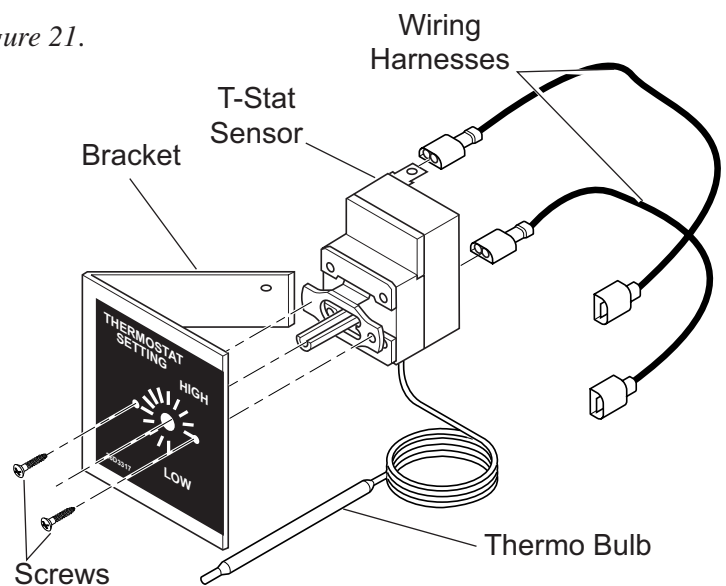

Figure 21 - Installing T-Stat Sensors and Wiring Harnesses
3. Using Phillips screwdriver, install t-stat sensor to bracket with two screws provided. See *Figure 21*. Make sure the thermo bulb wire is at the bottom of t-stat sensor.
4. Plug in wiring harnesses to back of t-stat sensor. See *Figure 21*.